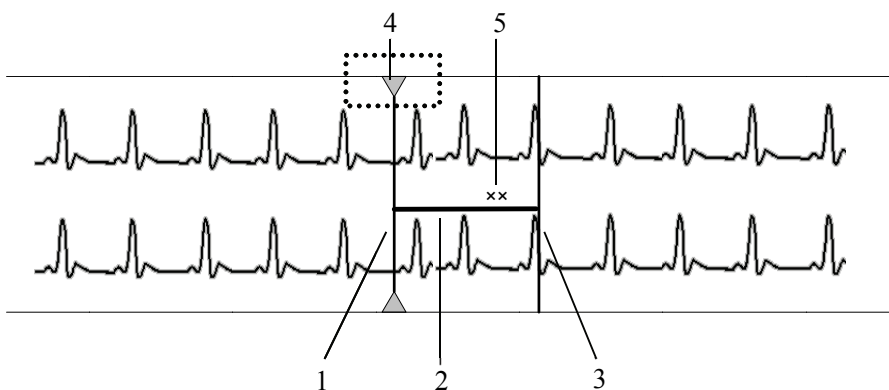

Figure 9-4 Horizontal Caliper
- In horizontal direction, the PR, QRS, RR, QTC, and QTC can be measured. The horizontal caliper is shown in Figure 9-4 Horizontal Caliper.